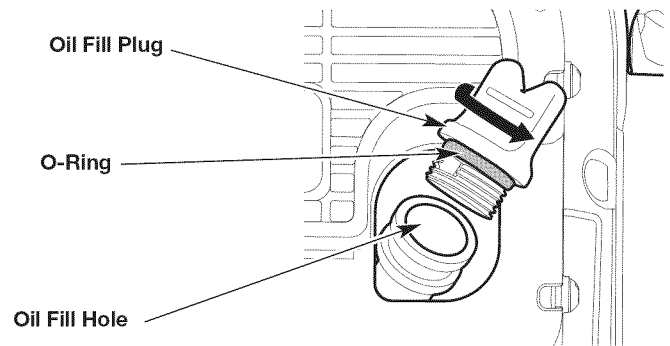

Fig. 11
3. Clean the area around the oil fill plug (Fig. 11) to prevent debris from entering the oil fill hole.
**NOTE:** Make sure the O-ring is in place on the oil fill plug (Fig. 11).
1. Clean the area around the oil fill plug (Fig. 11) to prevent debris from entering the oil fill hole.